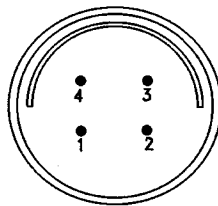

Figure 3 — Connector Pins
3. Check trigger cable connection. Trigger microswitch should click when depressed. Use an ohmmeter to check continuity between pins 1 & 3 with trigger depressed. If trigger switch is good, ohmmeter will show zero ohms. An ohmmeter connected across pins 1 & 4 or 3 & 4 should give a reading of 820 ohms,  $\pm 5\%$ , with trigger depressed. Refer to Figure 3 for pin designations. Check for 12VDC across trigger leads at circuit board. Replace circuit board if voltage not present.